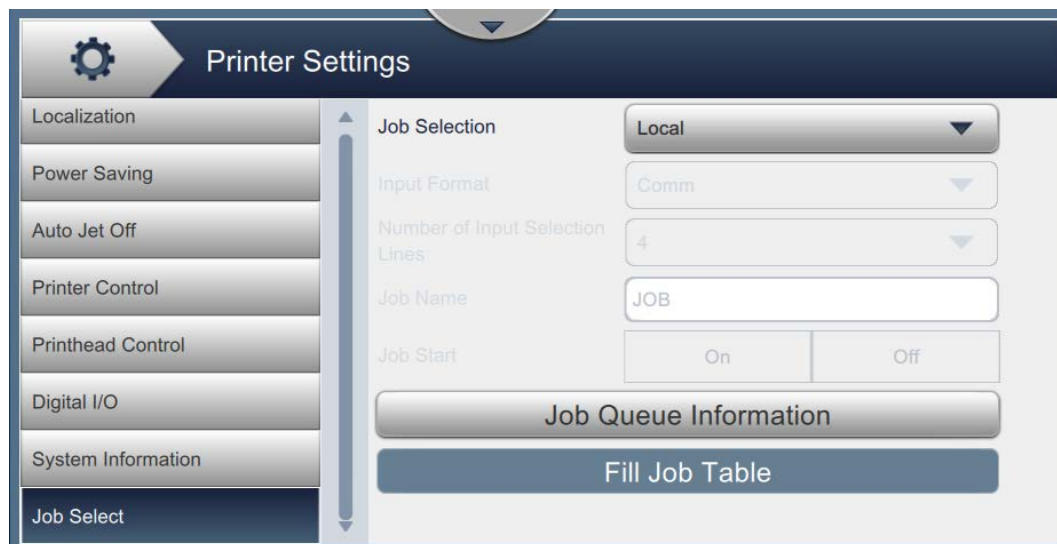

Figure 7-10: Job Select Screen
3. Touch *Job Select* option from the Printer Settings screen as shown in Figure 7-10.